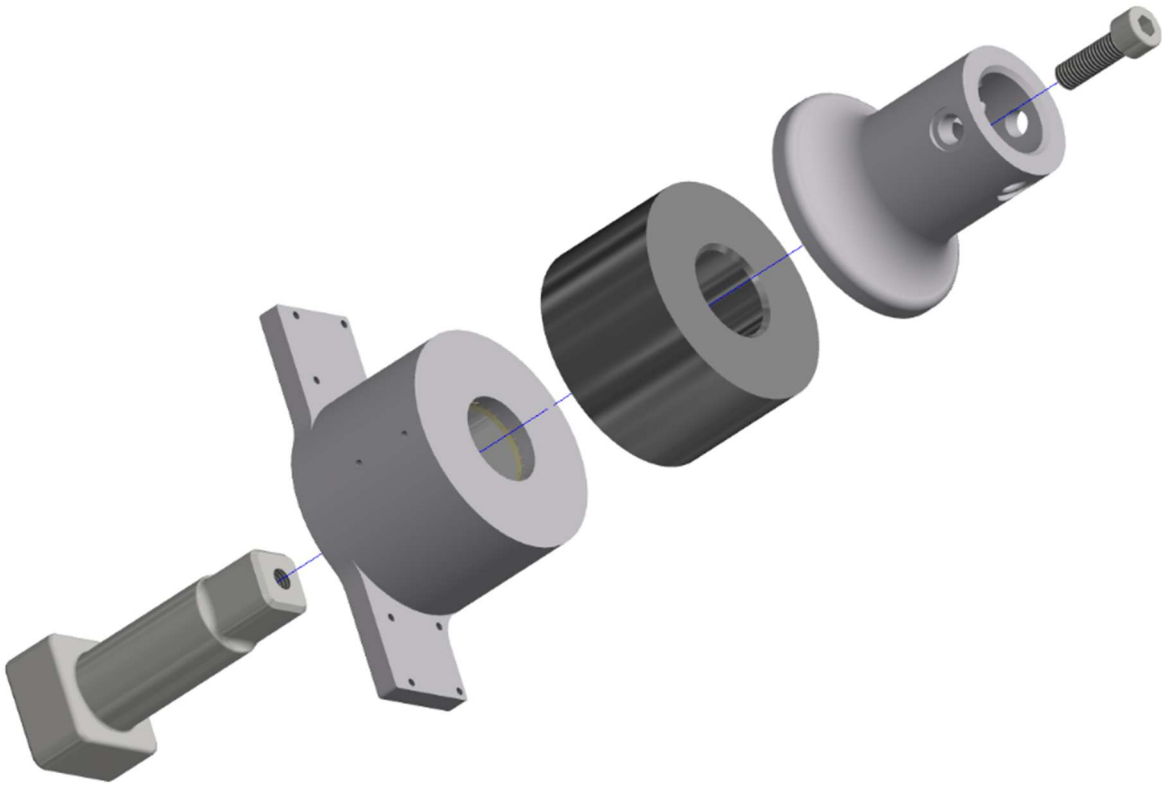

Figure 9-30. Remove the M8 X 1.25 X 30 LG. FHCS from the center of the Femur End Cap (474-5173-1,2)
9.2.22 Remove the M8 X 1.25 X 30 LG. FHCS from the center of the Femur End Cap (474-5173-1,2) (Figure 9-30). Separate the Femur Assembly (474-5160-1,2) (Figure 9-30).